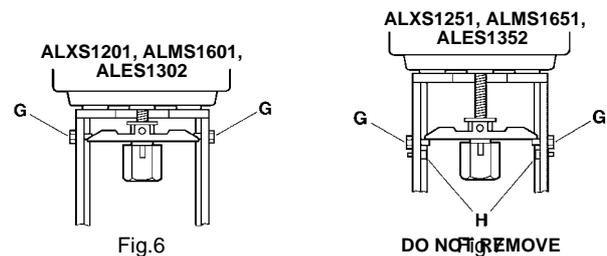

Fig.6
7. For **ALMS1601** and **ALXS1201** actuators, drive the actuator so that the spindle is fully extended. Remove despatch bolts 'G' (Fig.6).
2. Set switch 'B' to - (RA), this will drive the actuator so that the actuator drive screw is fully extended (position 10). Wait until the drive screw has stopped moving before continuing.
3. See Fig.6. Remove despatch bolts 'G'.
2. See Fig.6. Remove despatch bolts 'G'. DO NOT REMOVE STOP BOLTS 'H'.